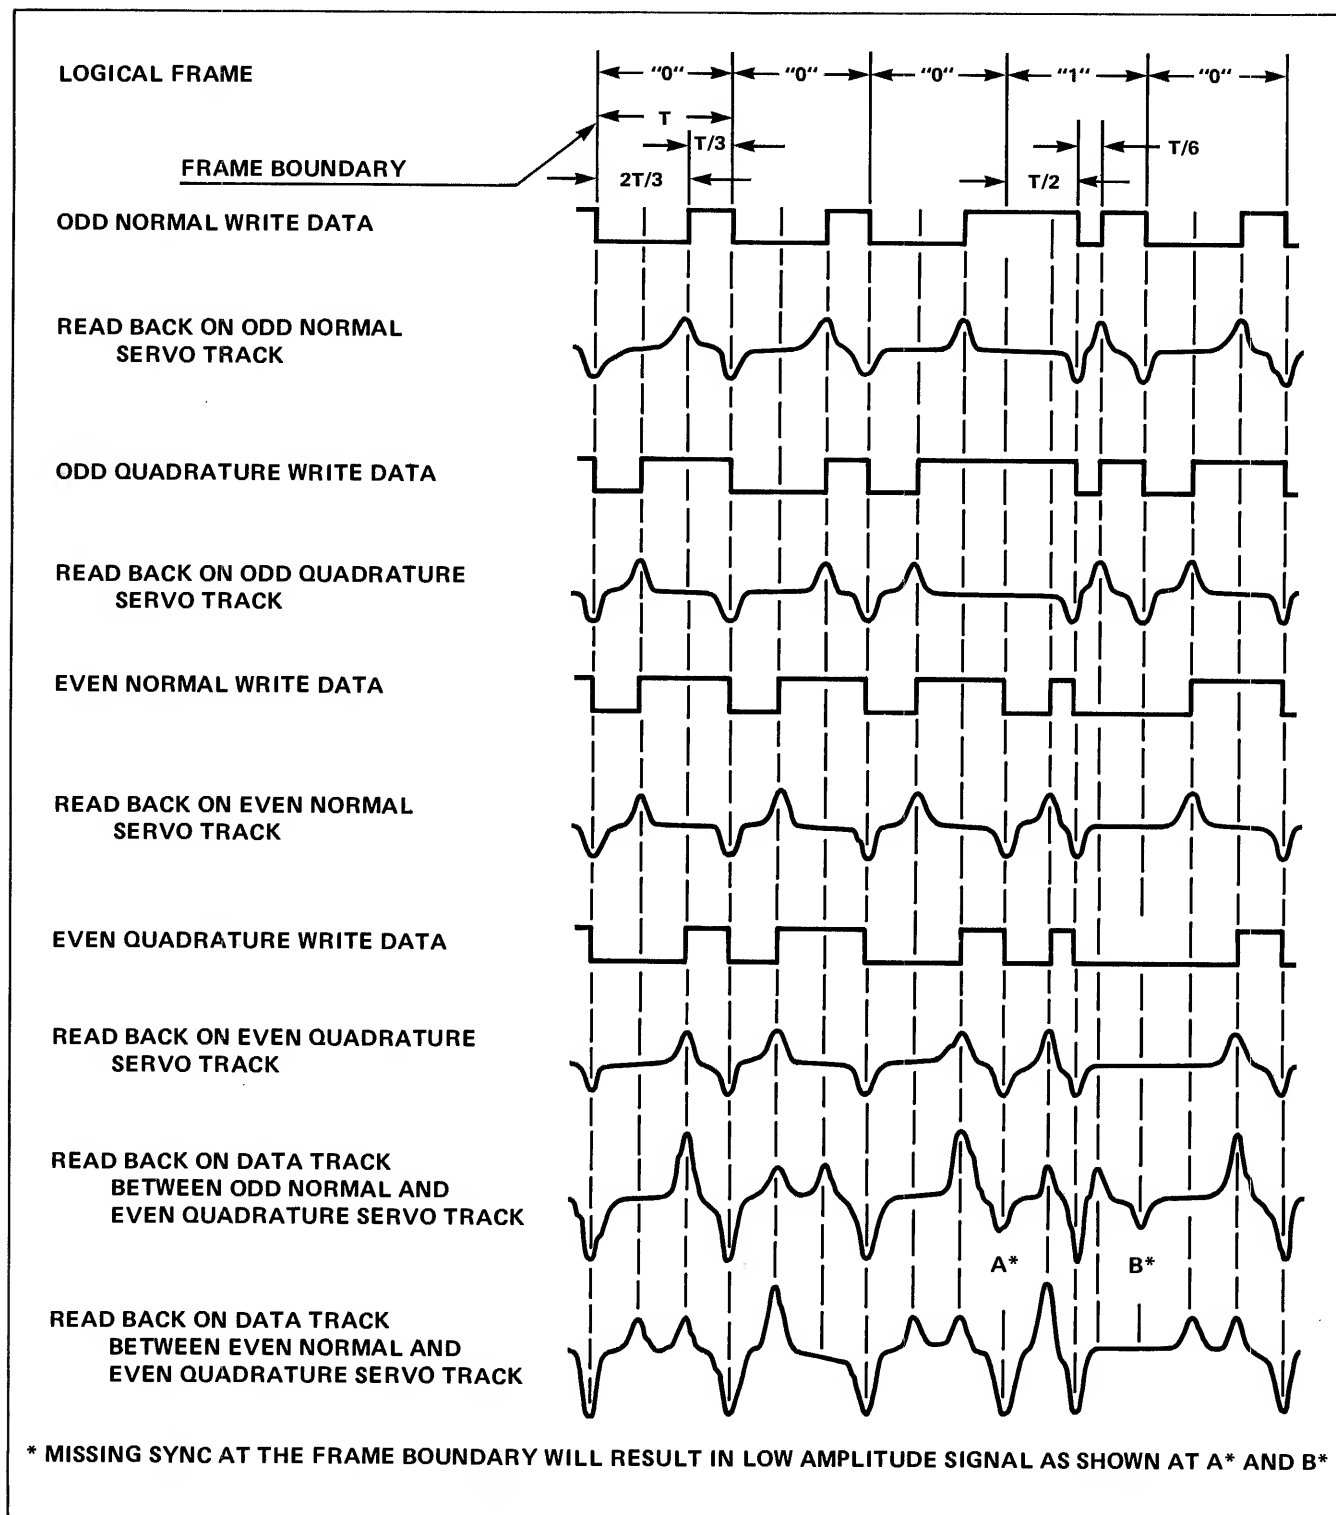

Figure 3-2. Servo Track Signals
3.3 Servo Pattern. Figure 3-2 shows the four kinds of servo track signals. The normal servo data patterns are written on the integer tracks, and the quadrature servo data patterns are written on the half-integer tracks.